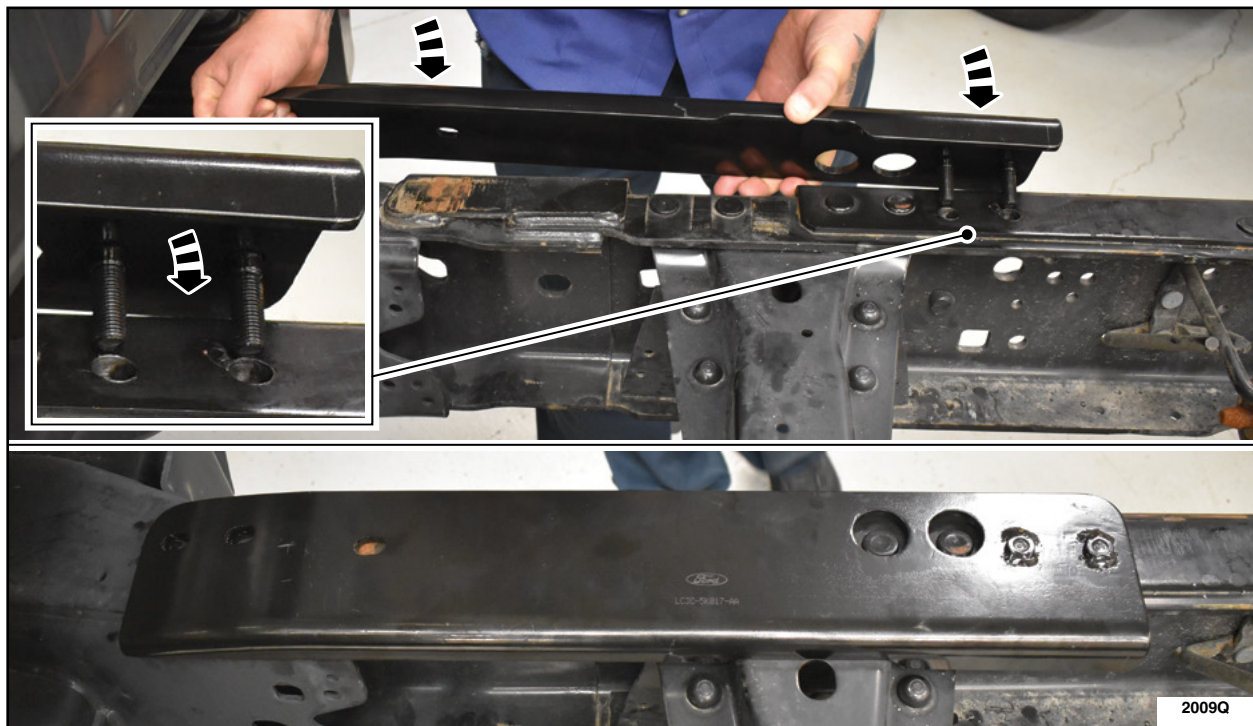

FIGURE 10
10. Position the upper bracket on the frame and seat the two (2) rear studs into the drilled holes. See Figure 10.
12. Remove the clamp and the bracket from the frame. See Figure 10.